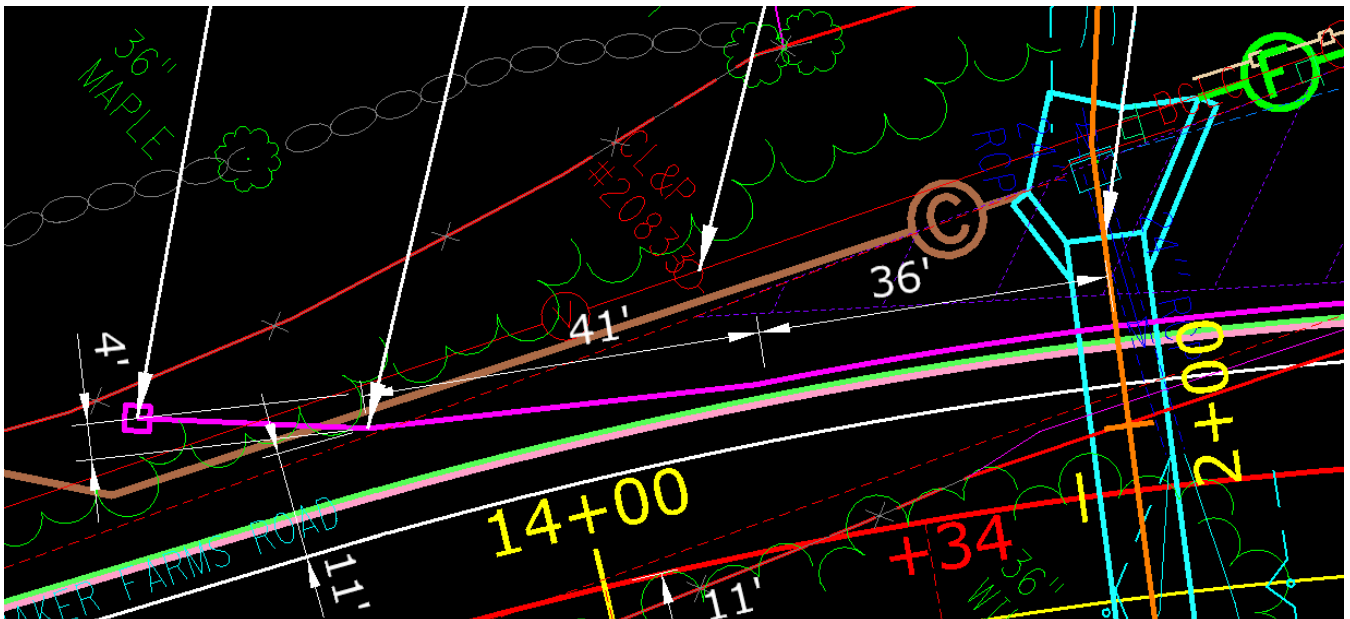

Figure 102 - Roadway Dimension
4. Next dimension the offset, click at the end of guiderail offset. Click on the edge of travelway line (perpendicular to the guiderail), define the length of dimension extension line and place the number value. Reset. Repeat for the end anchor offset. See Figure 102.